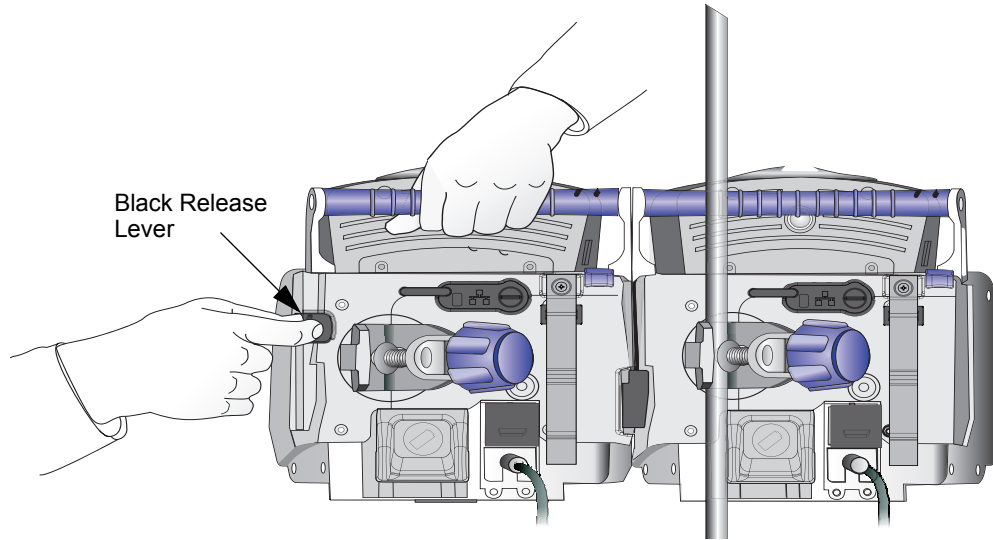

Figure 48: Grasping the Infuser
6. Shown in Figure 48 is a two-channel fully attached to a one-channel.